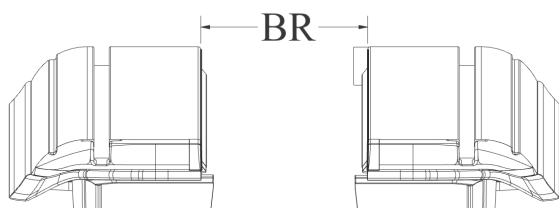

FIG. 7C
Now tighten your clamp turn knobs hand tight. Finally, check for proper spacing by measuring between the rails by attempting to insert the BR Gauge in between the rail metal and the handle stop (FIG 7F). You can also check the between the rail measurement at the canister and the tailgate end of the rails. The measurements should be equal to or less than those in Figure 7C. The Clamp Extensions have been pre-installed with brackets and shims to achieve the proper Between the Rail dimension (BR) when placed on an average factory truck bed. However, not all truck beds are average dimensionally and some have optional plastic caps or over the rail spray-in liners.